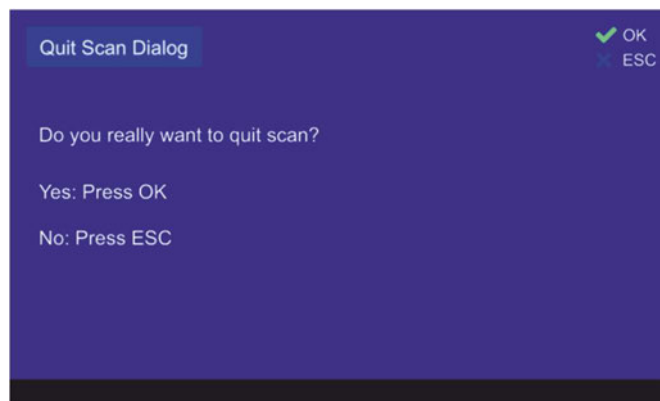

Figure 56. Confirming of leaving the scan mode
- You can stop the scan mode by pressing the “HOME” while on the “Bearing” page with activated scan. After you confirm the dialog (s. Figure 56), this mode will be terminated.